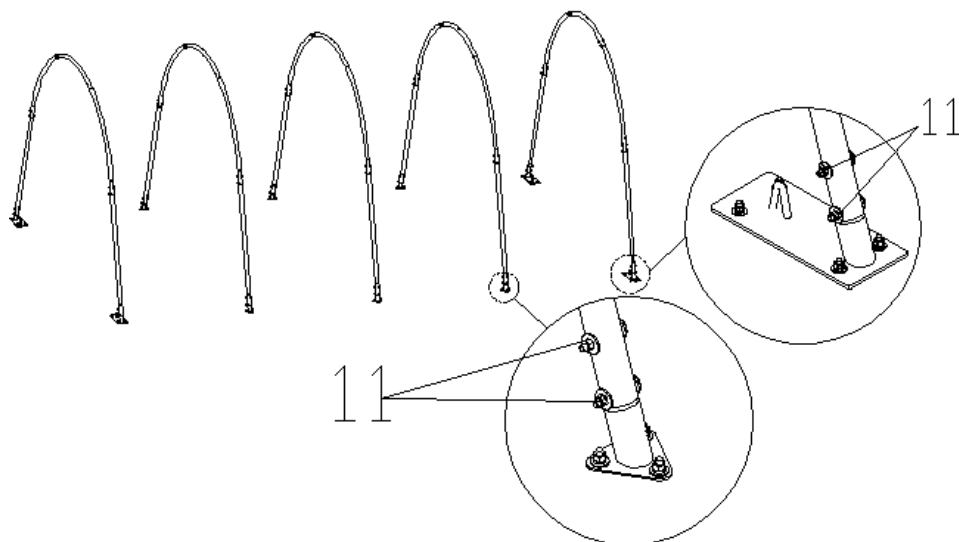

Figure 4
- Put up all 5 trusses, use hex bolt (#11) to secure the truss to the baseplates , but do not bolt it completely firmed yet (refer to Figure 4)